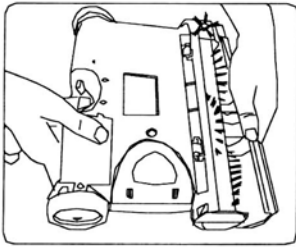

Fig. 13
3. Remove the brush cover. (Fig. 13) (Refer to page 5 for detailed instructions.)